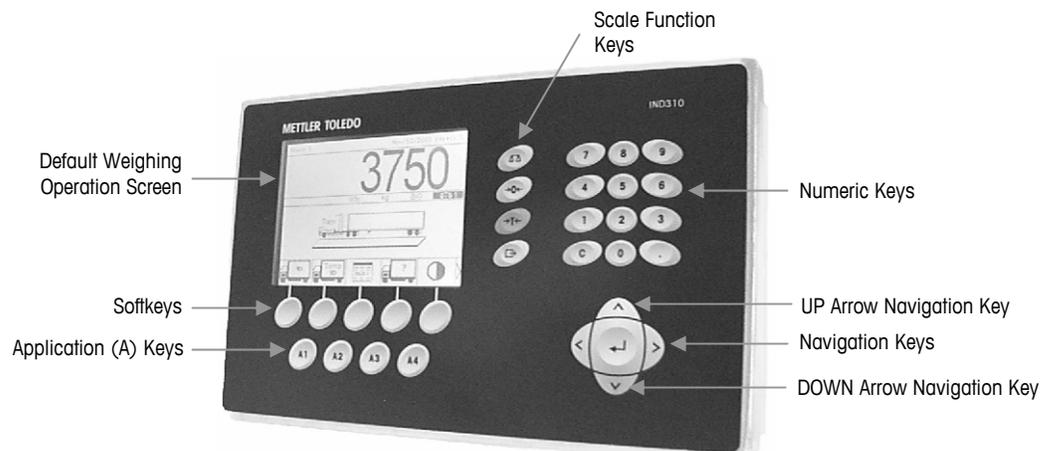
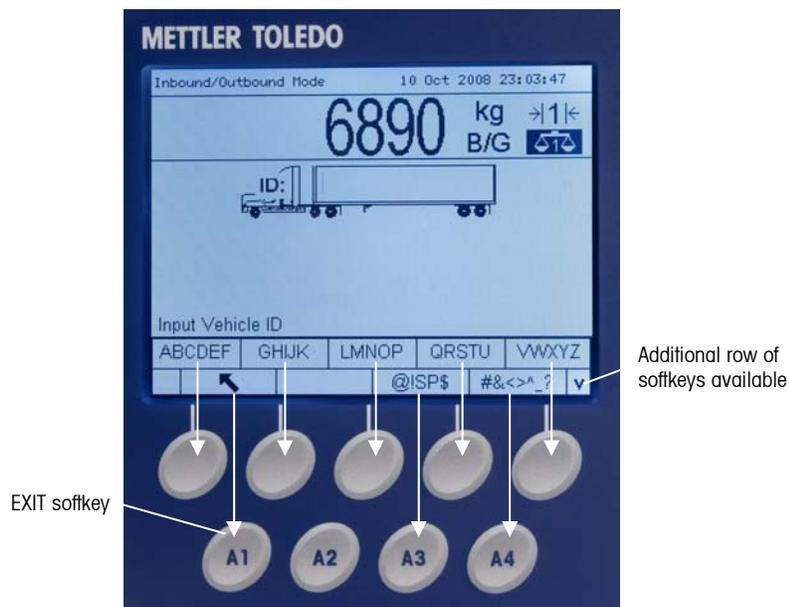

Figure 2-4: Key Locations and Default Weighing Operation Screen
Figure 2-5: Alpha Keys
The locations of the above listed keys and the default weighing operation screen are shown in Figure 2-4.
Five softkeys are located along the bottom of the display screen (see Figure 2-4). Some screens might have up to three pages of softkeys for a total of 15 possible functions. A DOWN ARROW icon  displayed on the lower-right corner of the screen (to the far right of the softkey icons) indicates that more softkey selections are available. Press the DOWN arrow navigation key to display additional softkey screens. Press the UP arrow navigation key to display the previous softkey screen. See Appendix F for information regarding Softkey Setup.
Application keys (A keys) are located below the softkeys (see Figure 2-4) and are labeled
Scale function keys (see Figure 2-4) are:
Navigation keys (see Figure 2-4) enable navigation within the setup menu tree, setup screens, and application screens. Navigation keys include:
Use the terminal's 12-key numeric keypad (see Figure 2-4) to enter data and commands.
On some setup pages, soffkeys and application keys function as alpha keys (see Figure 2-5) that are used to enter alphabetic characters for setup parameters such as passwords.
To use alpha keys, position the cursor in the data entry location (see Navigation Keys), press the soffkey or application key associated with the desired set of alpha characters as shown in Figure 2-5. The soffkeys change to display each alpha character included in the selected set of alpha characters. Use the UP and DOWN arrow navigation keys (see Figure 2-4) to switch between upper-case and lower-case characters. Press the key associated with the specific alpha character desired for data entry. Use the EXIT soffkey  to return to the main alpha key menu. Repeat this process until all alpha characters have been entered.
2. Once the vehicle is on the scale, press the VEHICLE ID softkey. A vehicle ID prompt displays with a cursor in the Vehicle ID entry field. The softkeys and application keys become alpha keys (see Figure 2-5).
- A. Enter the ID information at the temporary ID prompt that displays with a cursor in the ID field. The softkeys and application keys become alpha keys (see Figure 2-5).